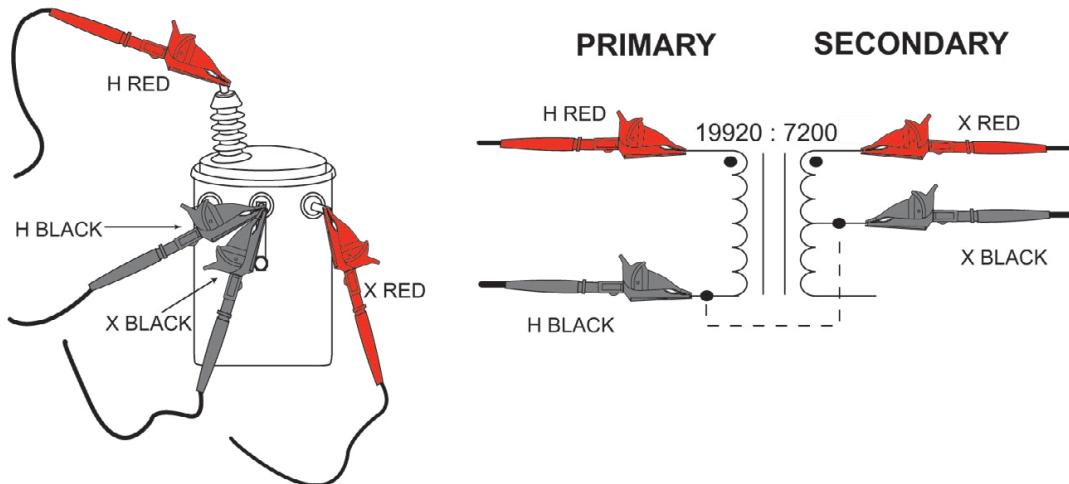
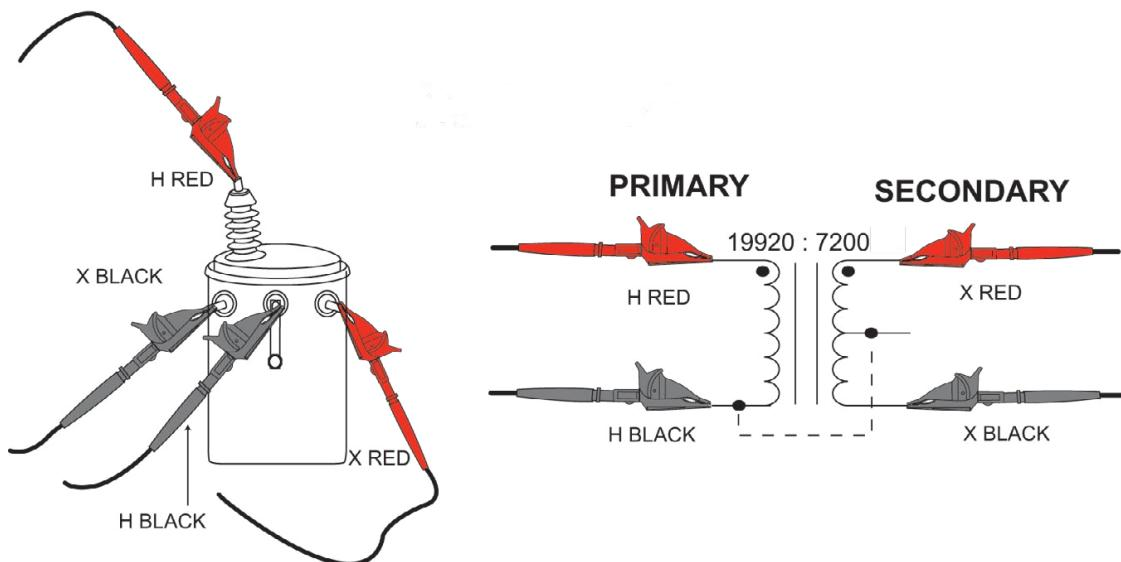
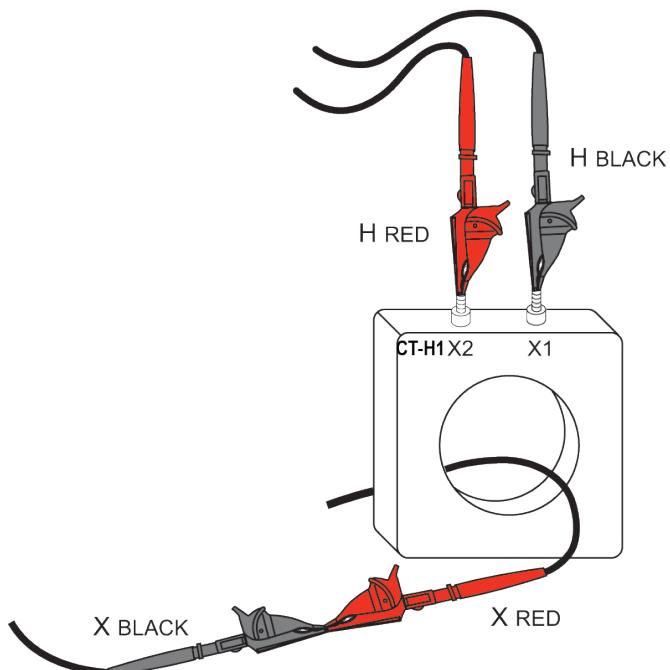

Figure 101
Figure 102
Figure 109
1. Connect the Primary (H) and Secondary (X) cables to the appropriate connectors on the DTR® 8511 and the transformer under test (see Figures 101 & 102).
For Typical Connection: VT/PT see Figure 101 & Figure 102, CT see Figure 109